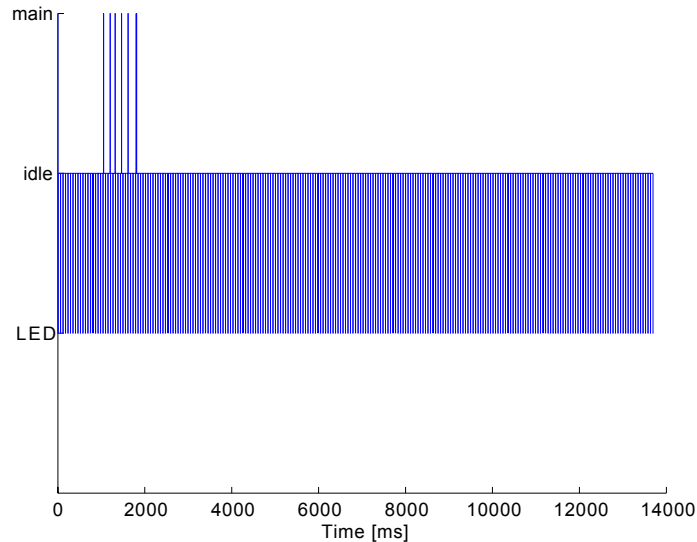

Figure 5.1: Execution of threads for the program listed in Exercise 49.
4. The list of events does not allow you to quickly understand what is really going on. Therefore we now use the terminal program on the host computer to capture the terminal output in a file. Then we postprocess the trace file we have created in the previous step using Matlab. Thus start Matlab now. Type `show_trace('<the filename of the captured terminal output>')`, which opens a figure like the one shown in Fig. 5.1. Be sure to use a separate log file for each trace captured. In this figure, you can see time on x-axis and three threads on the y-axis.
What you can see is that the `BTnode` spends most of the time in the `idle` thread. Periodically, it switches to the `LED` thread and a few times, the `main` thread was active. The `LED` thread is responsible for the periodic blinking of the LEDs, it becomes active approximately every 60ms and takes about 300 μ s to execute. The `main` thread is responsible for capturing terminal input and launching the corresponding commands. Thus if you did not type `trace` while the buffer was filling, you will see only one spike to the `main` line at the very beginning of the trace. Otherwise (as shown in Fig. 5.1) you can see a spike for every letter of `trace` plus one when you pressed return. Parsing a keystroke takes about 600 μ s, executing the command after pressing enter takes much longer, approximately 6ms. When looking closely at the last spike, you may note that it actually consists of several spikes. This is due to the fact, that the `trace` command prints the status of the trace buffer to the terminal, but cannot do so in a single shot. It fills the UART buffer until it is full, then yields execution to the `idle` thread and is woken up when the buffer has become empty again to write the rest of the output.